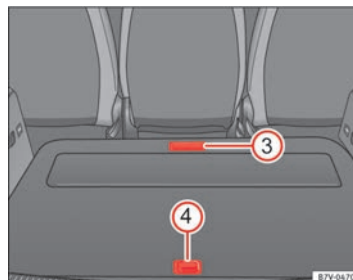

Fig. 116 Other compartments in the luggage compartment floor
Open the front compartment ⇒ Fig. 116 ③:	▷ Pull the front of the luggage compartment floor back using the handle.
Open the rear compartment ⇒ Fig. 116 ④:	▷ Lift the rear of the luggage compartment floor using the handle.